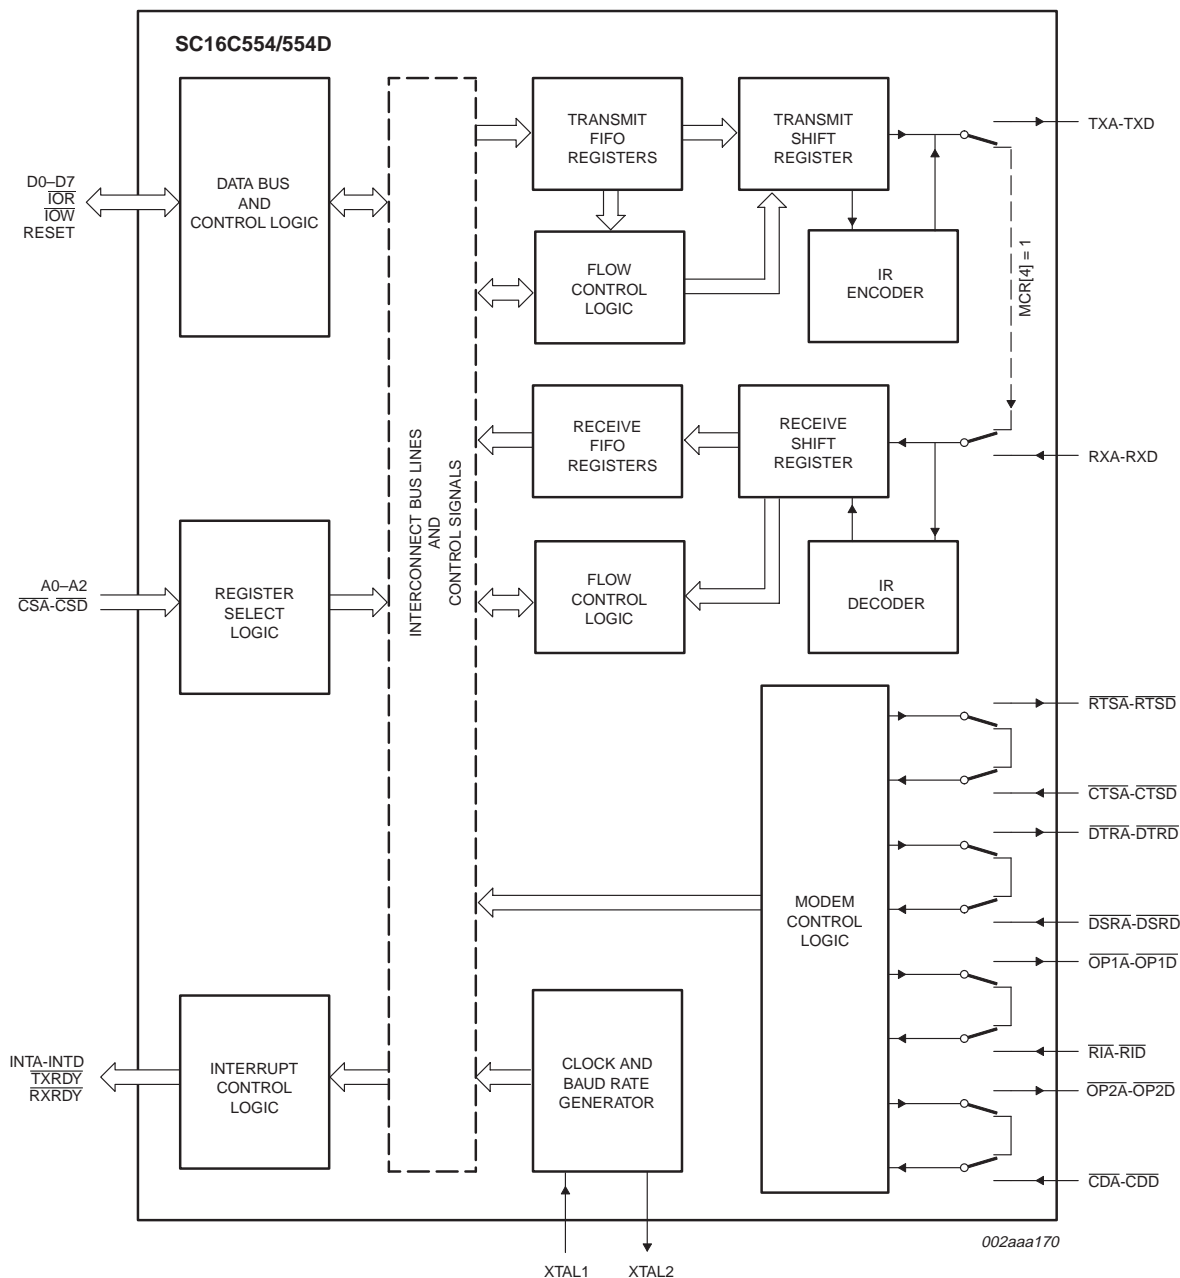

Fig 8. Internal loop-back mode diagram (16 mode).
The internal loop-back capability allows on-board diagnostics. In the loop-back mode, the normal modem interface pins are disconnected and reconfigured for loop-back internally. MCR[0-3] register bits are used for controlling loop-back diagnostic testing. In the loop-back mode, $\overline{\text{OP1}}$ and $\overline{\text{OP2}}$ in the MCR register (bits 2-3) control the modem $\overline{\text{RI}}$ and $\overline{\text{CD}}$ inputs, respectively. MCR signals $\overline{\text{DTR}}$ and $\overline{\text{RTS}}$ (bits 0-1) are used to control the modem $\overline{\text{DSR}}$ and $\overline{\text{CTS}}$ inputs, respectively. The transmitter output (TX) and the receiver input (RX) are disconnected from their associated interface pins, and instead are connected together internally (see Figure 8). The $\overline{\text{CTS}}$, $\overline{\text{DSR}}$, $\overline{\text{CD}}$, and $\overline{\text{RI}}$ are disconnected from their normal modem control input pins, and instead are connected internally to $\overline{\text{RTS}}$, $\overline{\text{DTR}}$, $\overline{\text{OP2}}$ and $\overline{\text{OP1}}$. Loop-back test data is entered into the transmit holding register via the user data bus interface, D0-D7. The transmit UART serializes the data and passes the serial data to the receive UART via the internal loop-back connection. The receive UART converts the serial data back into parallel data that is then made available at the user data interface D0-D7. The user optionally compares the received data to the initial transmitted data for verifying error-free operation of the UART TX/RX circuits.